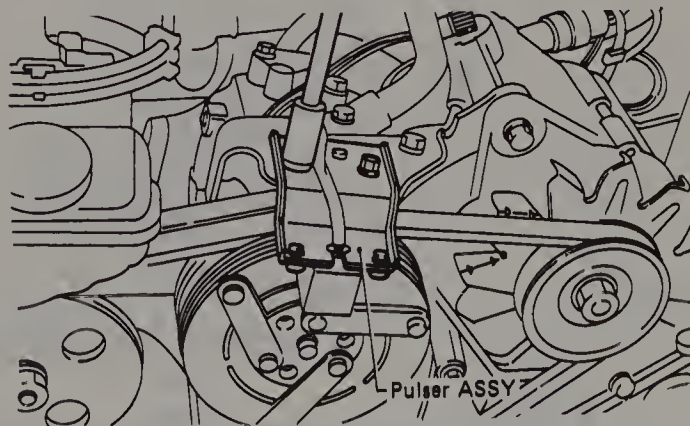

Fig. 13.12 Remove the air conditioning pulser assembly (Sec 5)
- 45 If equipped with air conditioning, remove the slip fan, pulser assembly and the battery (Fig. 13.12).